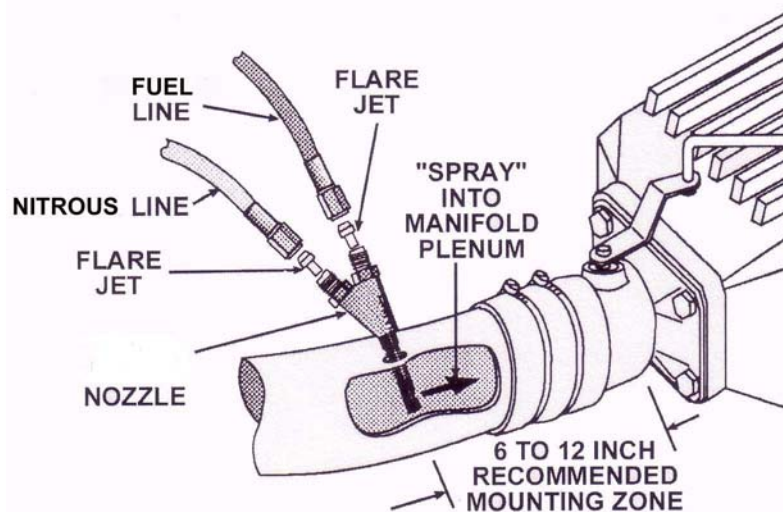

FIG. 5
Note: The recommended mounting location for the nozzle is in the air inlet duct, between the throttle body and the mass airflow sensor (in applications where a mass airflow sensor is used). In certain applications where the throttle body is an integrate part of the air cleaner housing, install the nozzle between the throttle body and the intake manifold. If possible, install the nozzle between 6 and 12 inches before the throttle body or any major turn in the air inlet duct. See figure 5. You will be mounting two nozzles on your car. The provided “T” and extra hoses will run to the additional nozzle.
- 1) Select the proper nitrous and fuel jets (15). Place the desired jets into the nozzles, making sure that the jets are inserted into the correct locations, as marked in figure 5 Check the jet cart for correct jet sizes.
- 2) Connect and tighten the blue fitting side of the 2 ft. 3AN hoses (10) to the nozzles as shown in figure 5
- 3) Connect and tighten the red fitting side of the 2 ft. 3AN hoses (10) to the nozzles as shown in figure 5